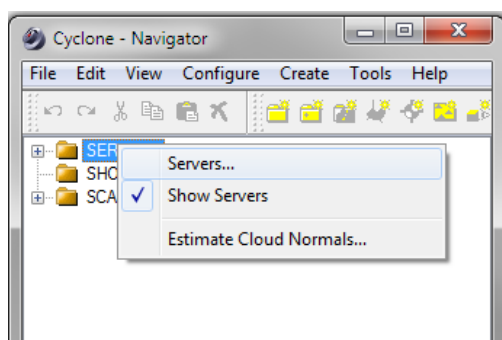

Figure 5. Right click on Servers folder
- Right click on **Servers** folder, the menu will appear. See Figure 5.